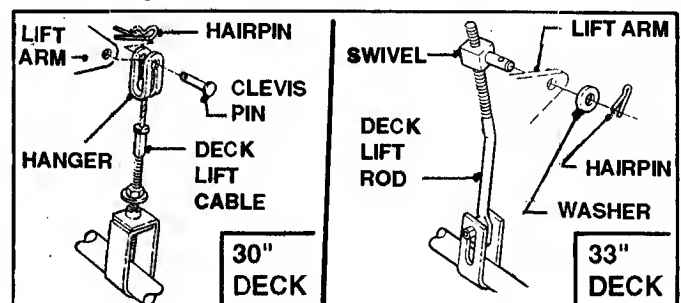

FIGURE 35
9. Disconnect DECK LIFT CABLE from front lift arm. See Figure 35.